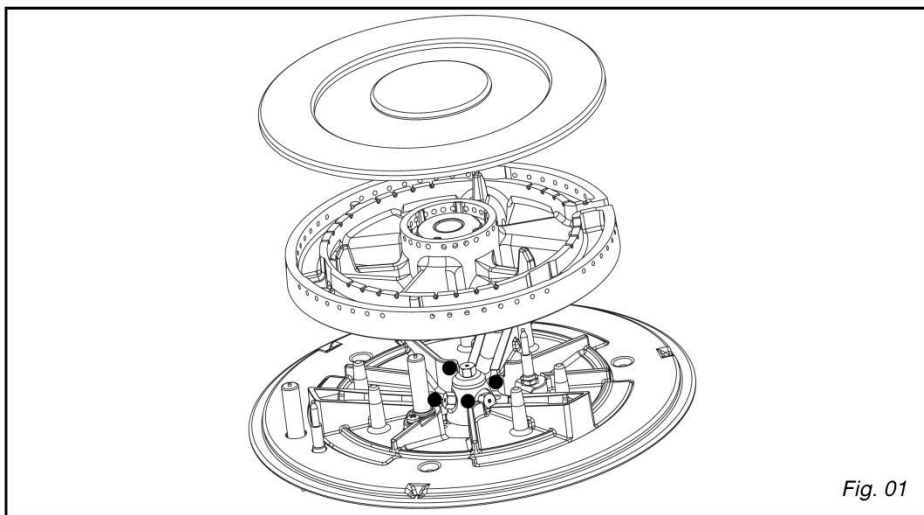

Fig. 01
- Using a No.10 spanner, unscrew the central injector located at the base of the burner unit (see **A**) and using a No. 7 spanner, unscrew the 3 injectors located around the central injector (see **B**) around *Fig. 01*.